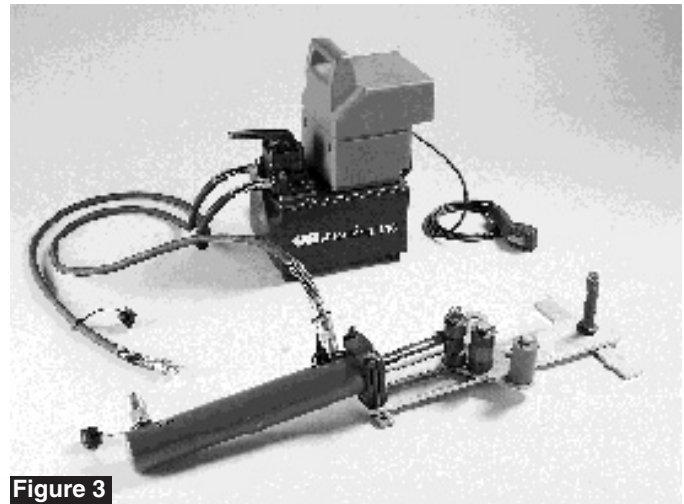

Figure 3
3. Connect the hydraulic hoses between the pump and cylinder ports (see Figure 3).